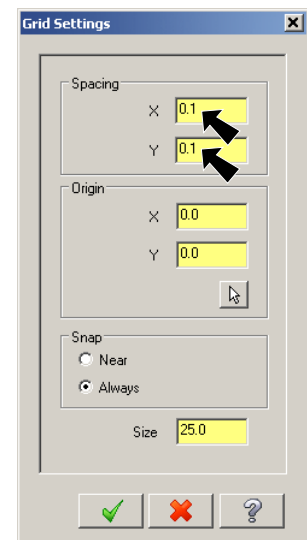

Fig. 30
Step 1. Use **Alt-G** to display Grid dialog box, **Fig. 30**